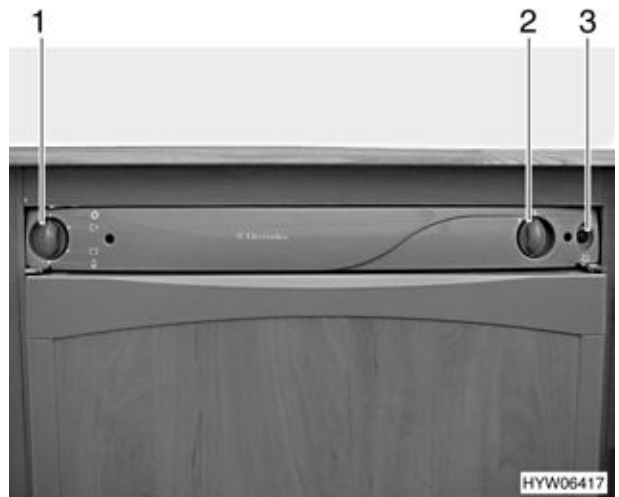

Fig. 145 Operating controls for refrigerator (variant 1)
- Set energy selector switch (Fig. 145,1) to gas .
- Press the control knob (Fig. 145,2) down and hold it. Gas supply is open. Ignition will take place automatically. Indicator lamp (Fig. 145,3) will flash and a ticking sound can be heard until ignition has been completed successfully.
- Keep control knob (Fig. 145,2) pressed for another 10 to 15 seconds, then release. If the flame fades, then the ignition device will repeat the ignition process.
- Set energy selector switch (Fig. 145,1) to "O". The appliance is switched off.
- Set energy selector switch (Fig. 145,1) to 240 V operation .
- Use control knob (Fig. 145,2) to adjust refrigerating temperature.
- Set energy selector switch (Fig. 145,1) to 12 V operation .